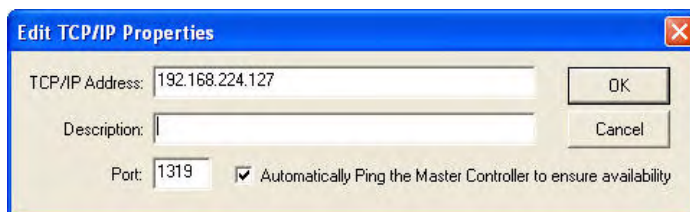

FIG. 86 NetLinx Studio - Edit TCP/IP Properties dialog
- Alternatively, select an IP address from the *List of Addresses* and click **Edit** to alter its properties via the *Edit TCP/IP Properties* dialog (FIG. 86).